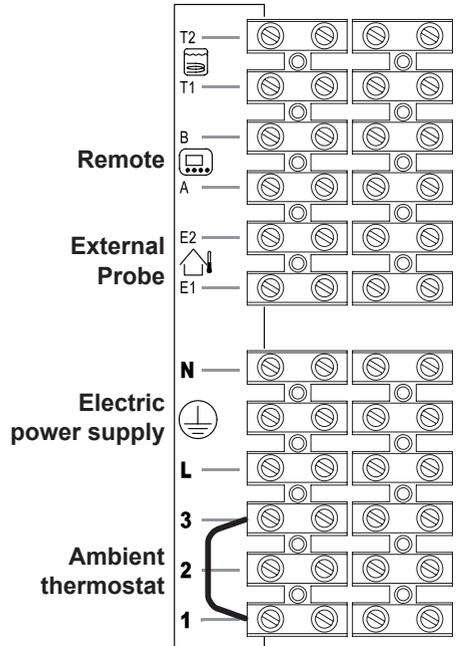
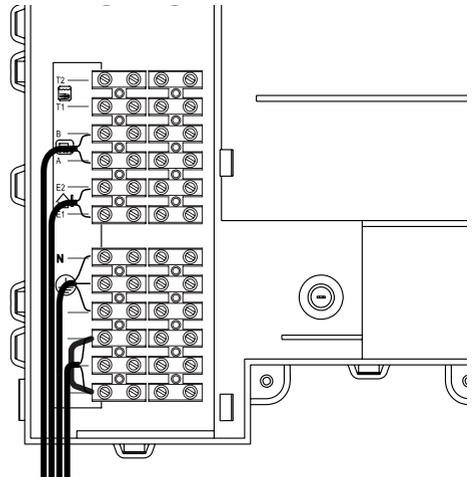
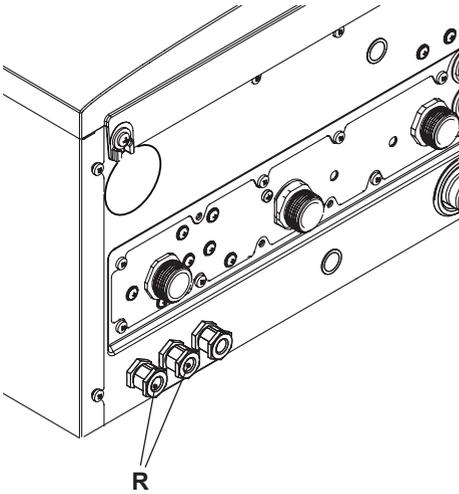

Fig. 6.15
Fig. 6.16
Fig. 6.17
- Connect the electric power supply cable coming from the fused spur isolation switch to the power supply terminal block of the boiler Fig. 6.15 keeping the same connections for the live (brown wire) and the neutral (blue wire). External 3A fuse or fused plug with same current rating is recommended.
The route of the boiler and ambient thermostat's electric power supply cable or wires must follow the route indicated in Fig. 6.16.
Allow the cables to exit the boiler by using the relevant cable clamps R (Fig. 6.17).
Use the clamps indicated in Fig. 6.15 to connect the ambient thermostat.
Use the ambient thermostat's clamps indicated in Fig. 6.15 and Fig. 6.16 to connect the zone valve. Insert the electric cables of the zone valve's micro switch contacts in clamps "1 and 3" of the ambient thermostat's terminal block as in Fig. 6.16.
The route of the boiler and ambient thermostat's electric power supply cable or wires must follow the route indicated in Fig. 6.16. Allow the cables to exit the boiler by using the relevant cable clamps R (Fig. 6.17).
The route of the external probe's connection wires must follow the route indicated in Fig. 6.16.
The route of the remote control cable must follow the route indicated in Fig. 6.16. Allow the cables to exit the boiler by using the relevant cable clamps R (Fig. 6.17).